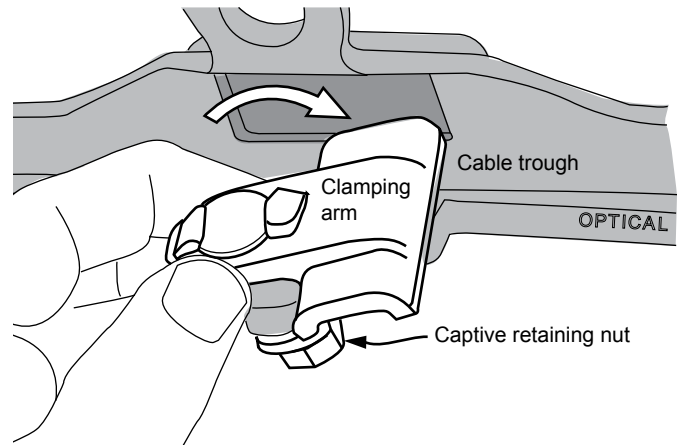

Figure 5
Step 3: If the captive retaining nut is tight, loosen the nut and rotate the clamping arm out of the cable trough (Figure 5).